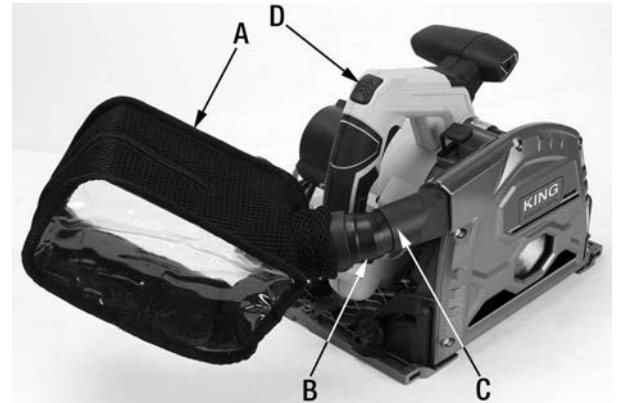

FIGURE 3
This 6-1/2" Plunge Cut Track Saw comes with a convenient and efficient dust bag (A) Fig.3. To install the dust bag, position the dust bag adaptor (B) into the dust chute (C) of the Plunge Cut Track Saw. Then slide dust bag over the other end of the dust bag adaptor as shown.
- 2) Press the plunge action lock/release button (D) Fig.3 and plunge the saw downwards. The saw will only plunge down 0.1" (2.5mm) and will stop at this plunge depth.